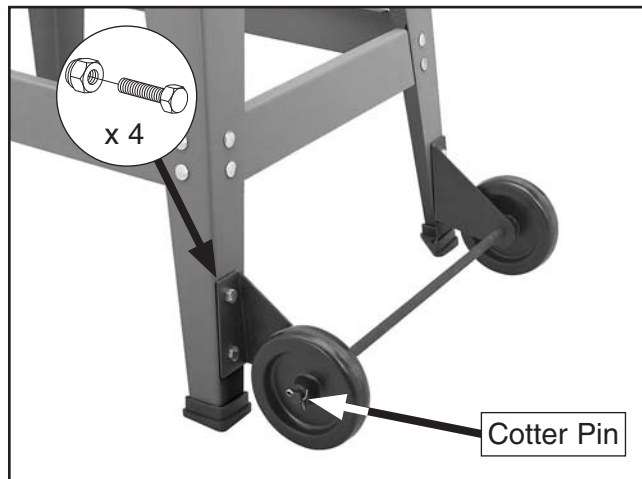

Figure 9. Wheels assemblies.
5. Attach the wheel brackets to the rear legs with (4) M8-1.25 x 16 hex bolts and M8-1.25 lock nuts (see **Figure 9**).